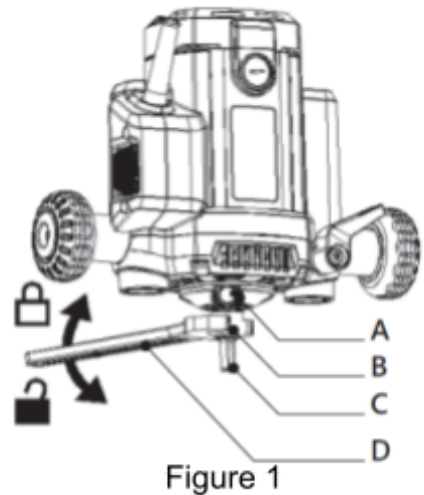

Figure 1
- Press the **spindle lock button A** (Fig. 1) to secure the spindle.